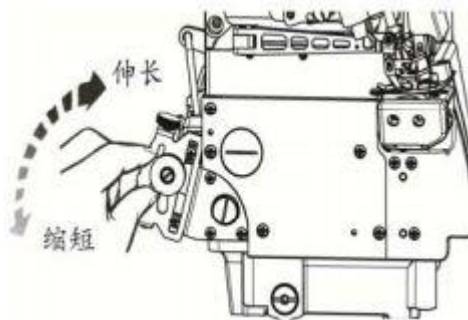

Fig.17
2. After this adjustment is made, tighten nut. (图 17)